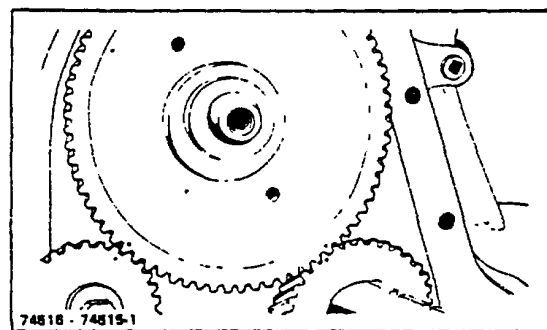

Figure 10-8. Timing Gears Assembled According to Timing Marks
7. Drive the crank gear on the shaft making sure that the marked teeth on the cam gear straddle the marked tooth on the crank gear (Figure 10-8) which assures that the crankshaft and camshaft are in time.